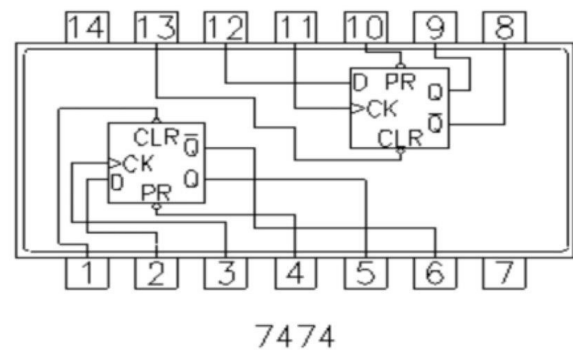

Fig. 2. 7474 IC connections
- 3) Now, make the circuit for shift registers using 4 D-Flip flops. Below shown are the connections of two 7474 ICs (Fig. 2).